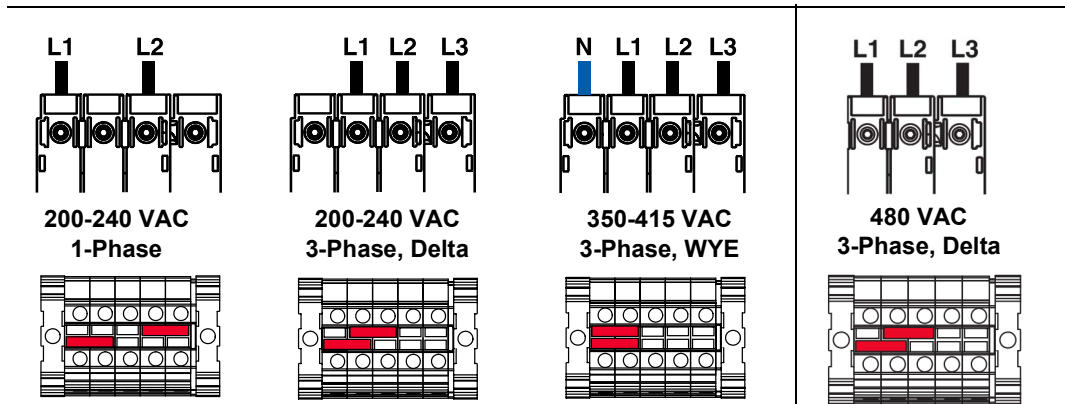

FIG. 1: Terminal Jumpers and Positions
1. Turn main power disconnect switch (ZP) OFF.
4. Connect the ground wire to ground terminal (GT).
5. Connect the power cord as shown in FIG. 1 : **Terminal Jumpers and Positions**. Gently pull on all connections to verify that they are properly secured.
6. Tighten the strain relief (SR).